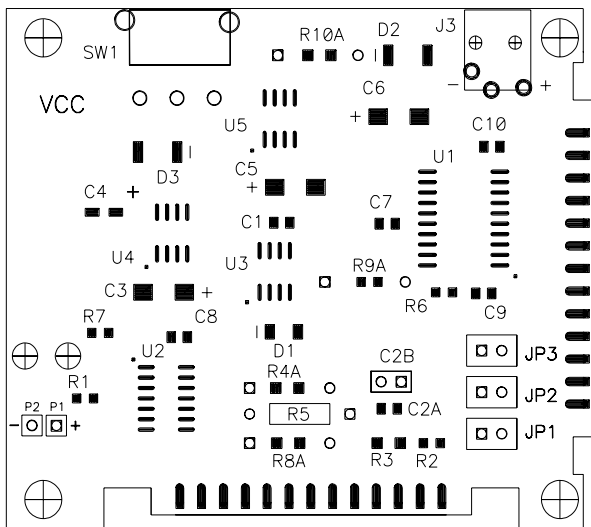

Figure 1
Figure 2 shows how to interconnect two RS-485 converters using two wires. Terminating resistors are optional, they should be used only on long length runs or at high baud rates. These resistors should match the impedance of the cable being used, which is normally about 120 ohms. The 485BAT2 allows for the addition of a terminating resistor at R5 as shown in Figure 1. This unit also allows for changing the values for R4 and R8 ( 4.7k biasing resistors). When the values are to be changed, remove the surface mount component and then install new value in the corresponding through hole.
The 485BAT2 uses two methods to control the RS-485 driver, handshake control (RTS) and send data (SD) control. These methods are jumper selectable (JP1 & 2). See Figure 1. Handshake control requires that the RS-232 device software raise RTS (pin 4 on the RS-232) to enable the RS-485 driver. After the transmission is complete, the RS-232 device must lower RTS to disable the RS-485 driver and enable the RS-485 receiver. SD control uses the leading edge of the first character transmitted from the RS-232 device to enable the RS-485 driver. After the last character is transmitted the converter waits one character time (1ms at 9600 baud) to disable the RS-485 driver.
The Echo jumper (JP3) controls the RS-485 receiver, it can be removed which constantly enables the receiver (RS-422, 4-wire mode) or install the jumper which allows the receiver to be enabled only when the RS-485 driver is disabled (2-wire mode). When the jumper is installed and in 2-wire mode, the data being sent from the RS-232 port will not be echoed back to the RS-232 port. See Figure 1 for jumper locations.